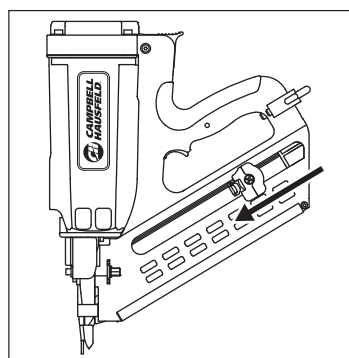

Figure 18
3. Press down on the fastener pusher button and guide the fastener pusher up to meet the bottom of the clip of nails placed in the magazine (see Figure 18).